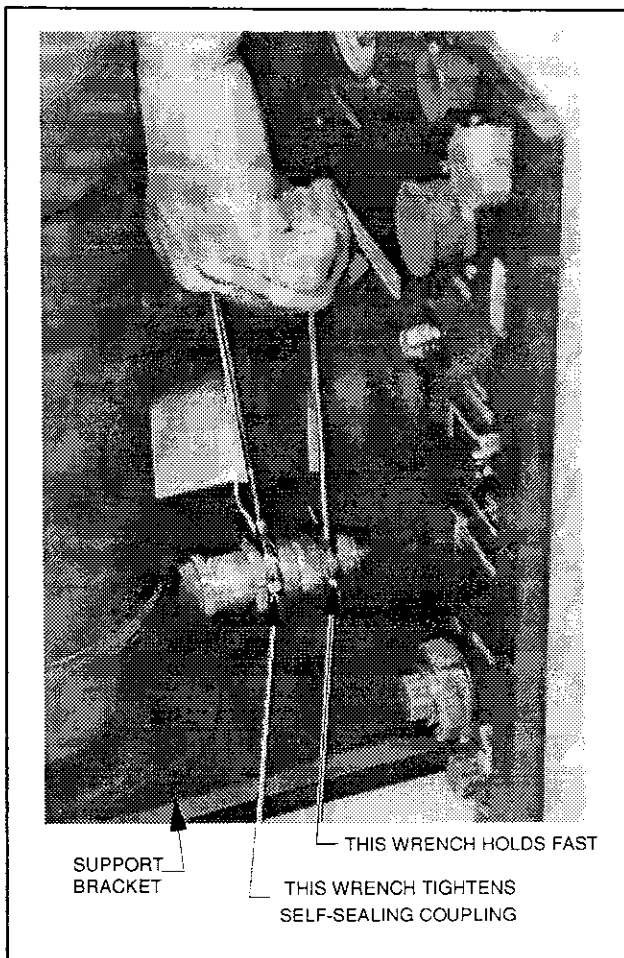

Figure 3.2 Installing the cartridge
Make sure to hold fast on the right coupling nut while tightening the left coupling nut, as shown in Figure 3.2.
4. Install the replacement cartridge following the steps in Figure 4.2, in reverse order. Use the hardware saved in step 3 above. Reconnect the self-sealing coupling per Figure 3.2, page 3-2.